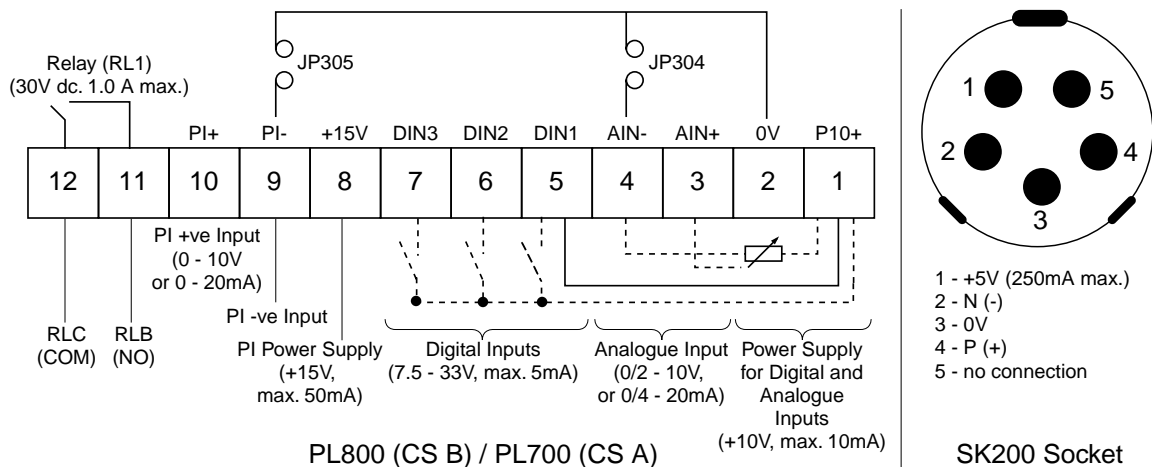

Figure 4 Control Terminal Connections
Feed the control cable into the inverter via the appropriate gland hole. Connect the control wires in accordance with the information in Figures 4, 5 and 6, having first unplugged connector block PL800 from the PCB (CS B only).
Note that the optional potentiometer fitted as an analogue set point shown in Figure 4 & 5 assumes that jumper JP304 is connecting 0V (pin 2) to AIN- (pin 4).
- a For forward rotation, ensure that a link is fitted between DIN1 (pin 5) and P10+ (pin 1) on PL800/PL700 (see Fig. 4). For reverse rotation, connect the link to DIN2 (pin 6) instead of DIN1.
- a Connect a run/stop switch between DIN1 (pin 5) and P10+ (pin 1) on PL700 (see Fig. 4) if forward rotation is required. If reverse rotation is required instead, connect the switch to DIN2 (pin 6) instead of DIN1 (pin 5).
- 1 Connect a 4.7 kΩ potentiometer to the control terminals as shown in Fig.4 or apply a 0 - 10 V signal between pin 2 (0V) and pin 3 (AIN+). In both cases, position jumper JP304 to connect 0V to AIN-.